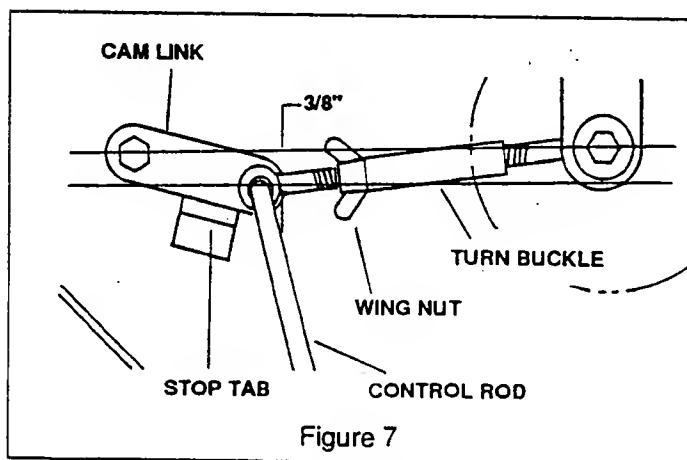

Figure 7
1. Engage blade clutch lever and check for proper over center clearance. There should be about 3/8" between rod and straight edge (see figure 7). Bend the stop tab to adjust clearance.
2. Adjust belt tension so that the belt moves 1/2" with 10 lbs. of pressure applied between the two spindle pulleys. Adjustment is made by loosening the wing nut and tightening/loosening the turn buckle (see figure 7).